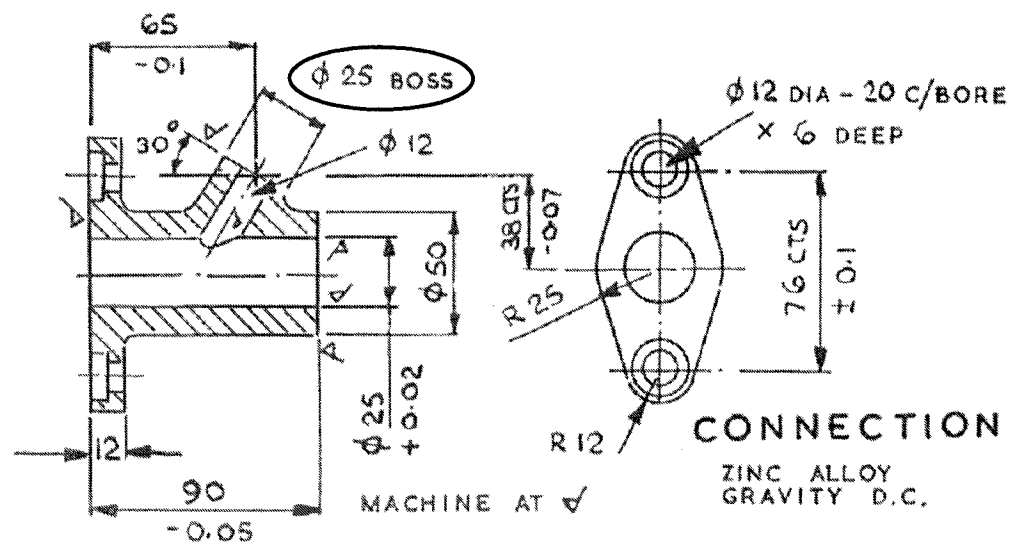

Fig. 2
2. Design a drill jig for *drilling* and *spotfacing* the $\varnothing 25$ mm boss of the Connection shown in Fig.2. This is done after the flange is drilled.